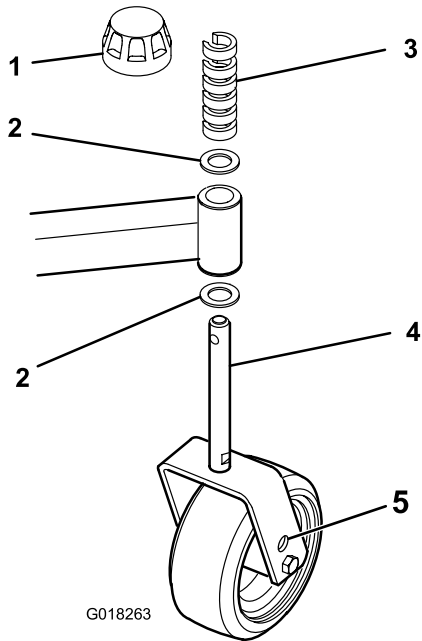

Figure 18
- Adjust the shims, on the front or rear castor arms, to attain the required cutting unit pitch (Figure 18).